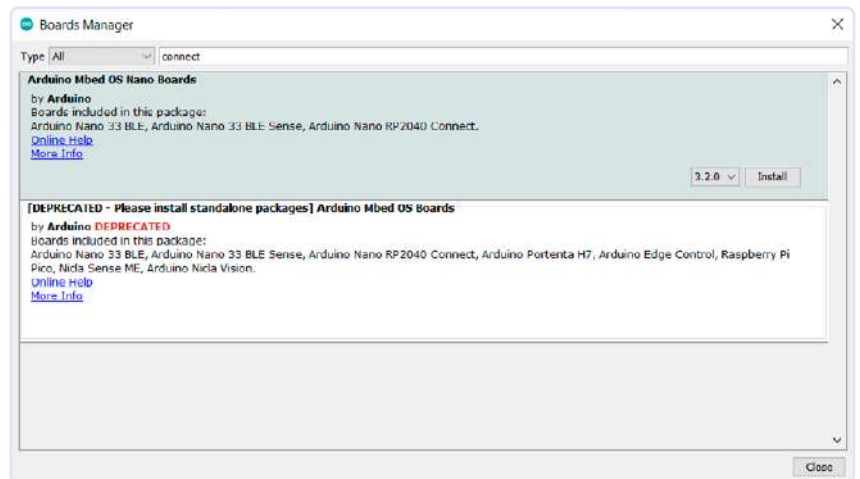

Figure 3: Use the IDE's Boards Manager to install support for the Arduino Nano RP2040 Connect.
2. Using the Arduino IDE's Boards Manager (*Tools* → *Board* → *Boards Manager...*) install the 'Arduino Mbed OS Nano Boards' board package (I used v3.2; see **Figure 3**).